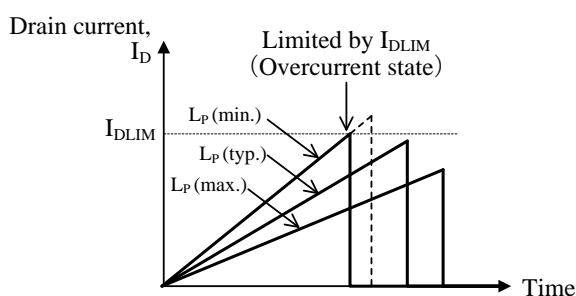

Figure 13-2 Relation between L_P and drain current I_D
- The peak value of drain current I_D in normal operation is determined by L_P value. Since the slope of I_D is expressed as V_{DS}/L_P , the smaller the L_P value, the steeper the slope of I_D becomes. Thus the peak value of drain current becomes high as shown in Figure 13-2. The IC limits the peak current by drain current limit I_{DLIM} (Overcurrent state). If L_P value becomes small by variation, there is the case that the system is in overcurrent state. Then the designed output power cannot be achieved. Thus the L_P value should be determined after the confirmation in actual operation using minimum L_P value within the variation, where the peak current value should be less than $I_{DLIM}(\text{MIN})$ in minimum input voltage of power supply.